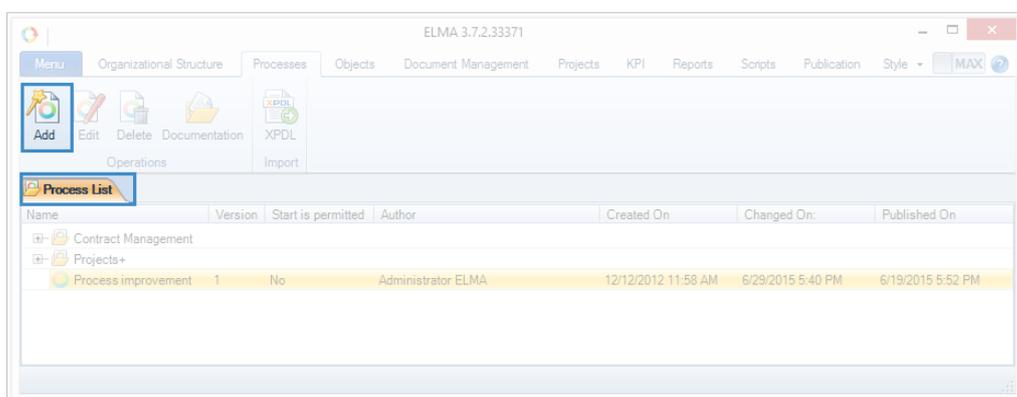

Fig. 45. Using Add button to create a new process in ELMA Designer
3. Click the **Add** button on the toolbar (Fig. 45).